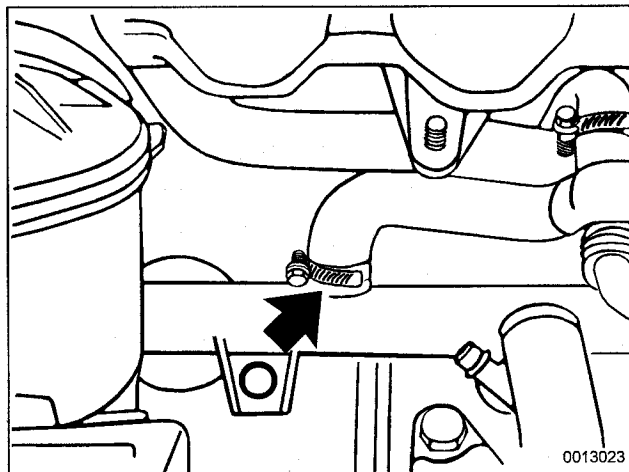

Fig. 3. Coolant hose connection beneath intake manifold on M42 engine (arrow).
7. On M42 engines, disconnect hose from coolant pipe on left side of engine. See Fig. 3.